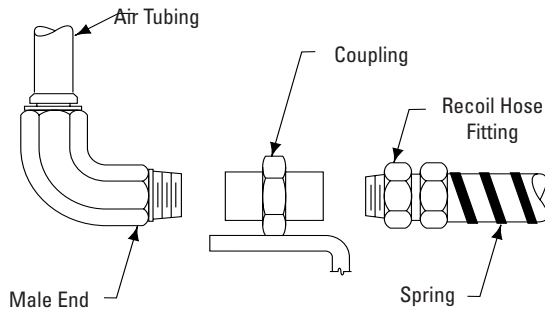

**Fig. 31 REAR ROLLING JACK TO RECOIL AIR HOSE**
- C. Connect one end of provided rear recoil hose to bulkhead T-fitting at midpoint of runway. Connect other end of recoil hose to coupling welded on rolling jack, Fig. 31 and 33.
- D. Connect elbow end of rolling jack tubing assembly to air pump and male end to the coupling, Fig. 31 and 33.